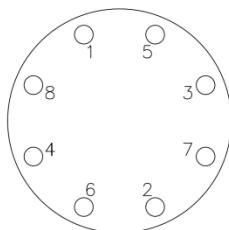

Fig. 4: Bolt Tightening Sequence
- 1.3.1.4.1. Flange bolts should be tight enough to compress the gasket and make a good seal, without distorting or putting excessive stress on the flanges. Suitable washers should be used between the bolt head and flange and the nut and flange. Bolts should be tightened in alternating sequence (Figure 4). See Table 1 for recommended torque.